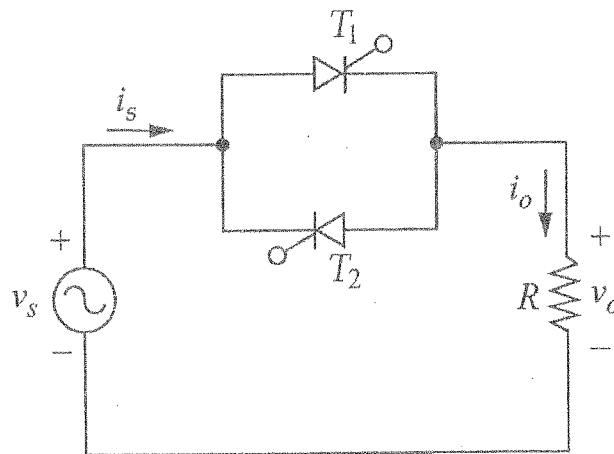

Figure Q5
c) The output voltage is controlled by the thyristors with delay angles α ($0 < \alpha < \pi$) and $\pi + \alpha$, for T_1 and T_2 respectively, in the single phase ac voltage controller shown in Figure Q5.